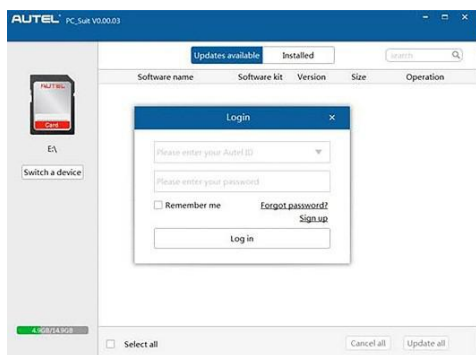

Figure 12.2
4. Run the **Maxi PC Suite**. Wait for the Log In window to pop up (Figure 12.2).